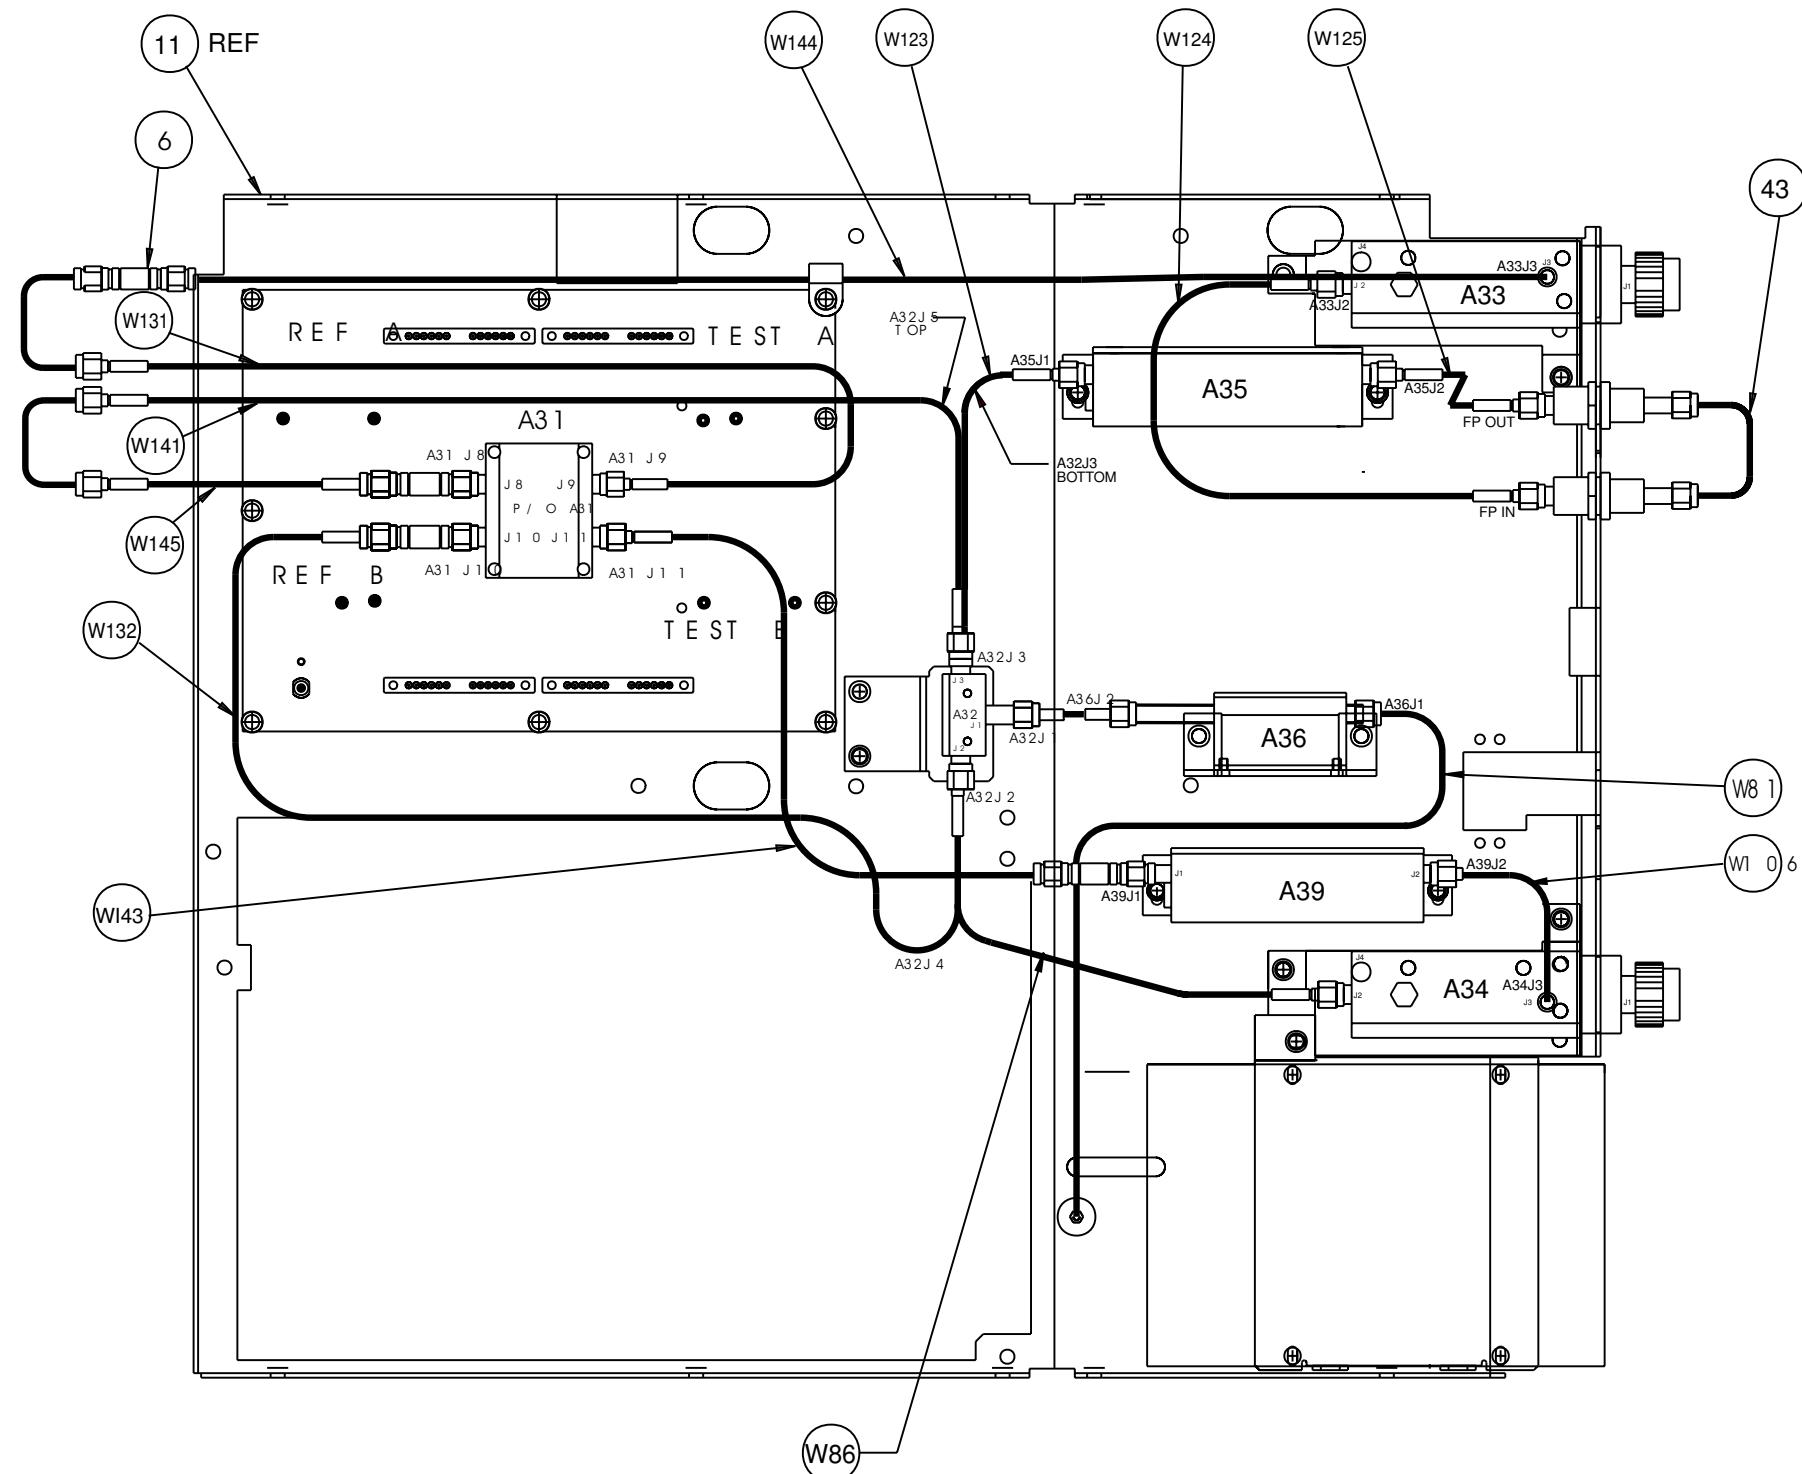

Figure 8-12. Test Set Module Components Layout Diagram
For Model 37269B: loosen the two screws that fasten the Transfer Switch mounting plate to the test set tray before disconnecting the semi-rigid coaxial line (W80). See Figure 8-12.
- Step 2. Disconnect the semi-rigid coaxial line W81 from the input connector of the SDM; see Figure 8-12.
- Step 4. Disconnect the semi-rigid coaxial line W80 from the output connector of the SDM; see Figure 8-12. Carefully lift the assembly from the Test Set Module.